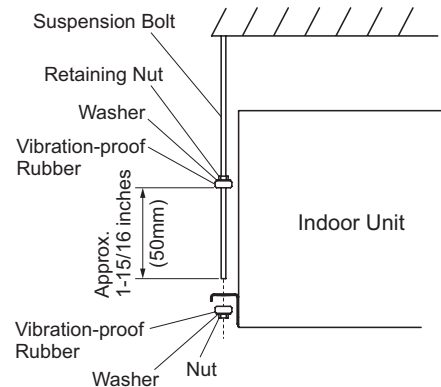

Figure 5.2 Suspension Bolts and Nuts
- (1) Prepare the suspension bolts, washers, nuts and vibration-proof rubbers, as shown in Figure 5.2.